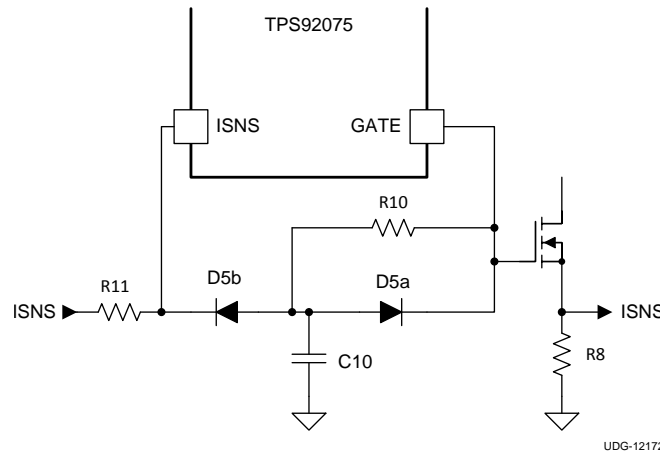

Figure 17. On-time Clamp Circuitry
For example, a resistor combination creating a dominant effect when the thermistor reaches the desired temperature and resistance can be incorporated by paralleling a thermistor and another resistor with R10 (Figure 17). This circuit option creates a shorter on-time as the temperature increases, reducing the output current. The use of a thermistor in these types of circuit implementations is simple and saves costly added circuitry and additional device pins.
The use of an on-time clamp (Figure 17) provides a soft-start and soft-stop action to the conversion each line cycle. It also adds a means to control the energy in these conversion areas to optimize dimming performance. For example, cutting the energy conversion in these areas in half maintains strong current pull through these critical TRIAC regions, but is not high enough to excite circuit resonances.
- Changed Figure 17 to correct resistor position 16